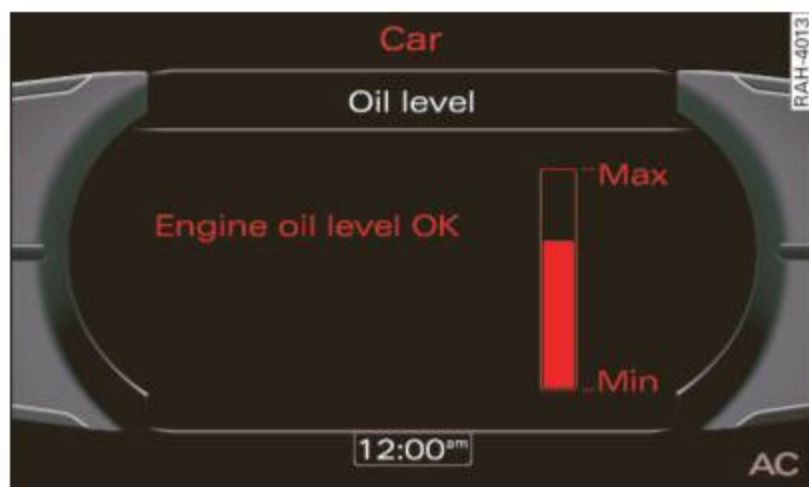

Fig. 206 MMI Display: Oil level indicator
- Read the oil level in the MMI* Display ⇒ fig. 206. Add engine oil if the bar of the oil level indicator is near “Min” ⇒ page 279